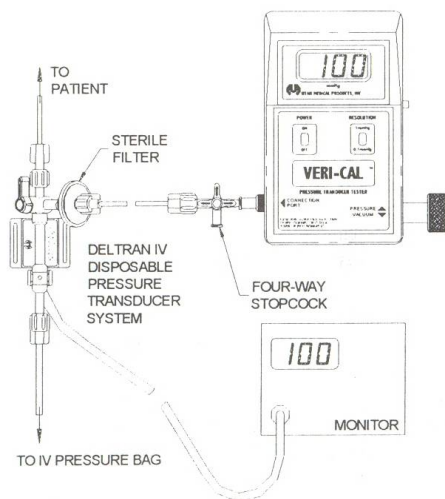

Figure 3
- e. When both the monitor and Veri-Cal read zero, position the handles on the stopcock as shown in Figure 3.
With the stopcocks positioned as shown in Figure 3, the system is now ready for testing. A series of static pressure is generated by turning Veri-Cal's adjustment knob. The applied pressure is indicated on the digital display.
Veri-Cal, as shown in Figure 3, has generated a pressure of 100 mmHg which is measured by the blood pressure transducer under test and indicated on the monitor. Veri-Cal has its own internal precision pressure transducer. Pressures received from a pressure generating source or generated internally by Veri-Cal are measured.